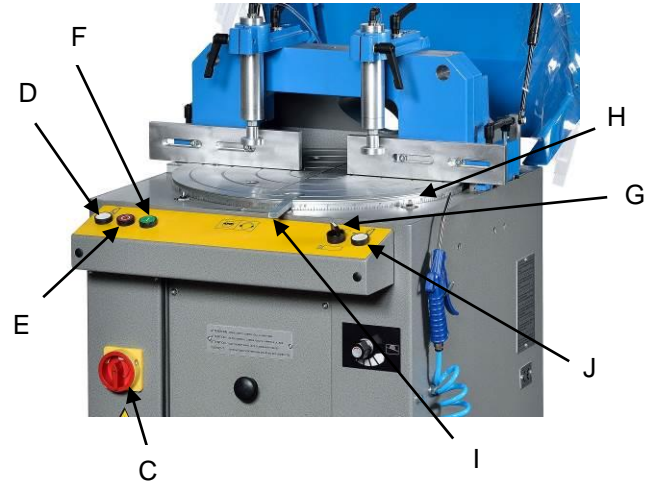
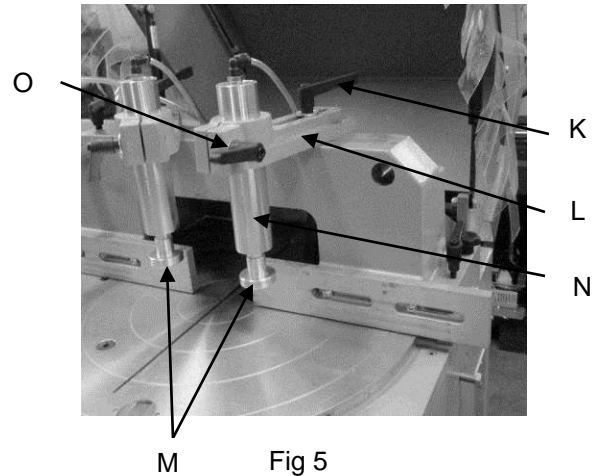

Fig 4
Fig 5
Control board (Fig. 4)
1. Turn on the main power switch C (Fig.4).
2. Lock the profile on the working table by turning select switch G (Fig.4) which activates the clamps M (Fig.5).
4. Press the green button F (Fig.4) starting of the motor.
5. Press simultaneously both buttons D and J (Fig.4) in order to let the blade out and get lubrication system to work.
6. Loosen the profile by means of selector G (Fig.4).
9. Turn off the engine by pressing the button E (Fig.4).
1. For horizontal adjustment loosen lever K (Fig.5) then push transversely pistons N (Fig.5) clamp L (Fig.5) till the expected position, then lock lever K (Fig.5).
2. In case of profiles with reduced sections, loose lever O (Fig.5) and pull down piston N (Fig.5).
3. In case of profiles with bigger sections, loose lever O (Fig.5) and lift up piston N (Fig.5) till profile can be locked.
4. Then lock again lever O (Fig.5).
The machine is equipped with a cooling system that works by means of spray mist unit W (Fig.8), that starts working automatically as soon as the blade runs out, by pressing both buttons START D and J (Fig.4). The coolant is situated in a tank X (Fig.8) previously described. Check on a regular base (every 24 working hours) that the coolant is at the right level. (Use only lubricant).
1. Check that main switch C (Fig.4) is off.